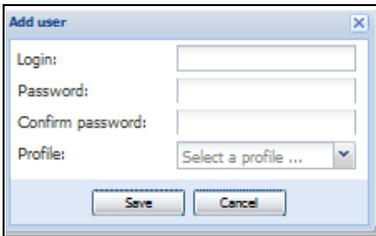

Figure 20. Add User Dialog Box
3. Type the user’s login and the user’s password (see Figure 20).